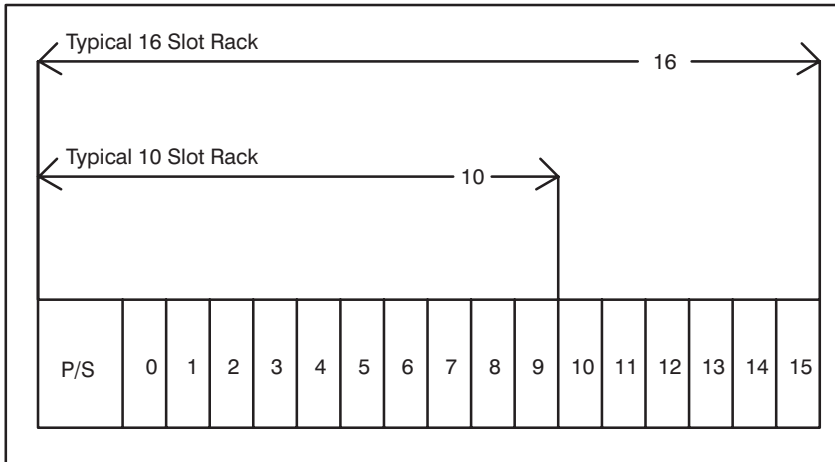

Figure 3.3 - Rack Slot Numbers
- Figure 3.3 - Rack Slot Numbers ..... 3-3
- Step 5. Insert the module into the desired slot in the rack. Refer to figure 3.3. Use a screwdriver to secure the module into the slot.
Refer to figure 3.3. Verify that the slot number being referenced agrees with the slot number defined in the configuration task. For this module, the register number is always zero. Verify that the register number of the output module agrees with the D/A channel number (0-3).